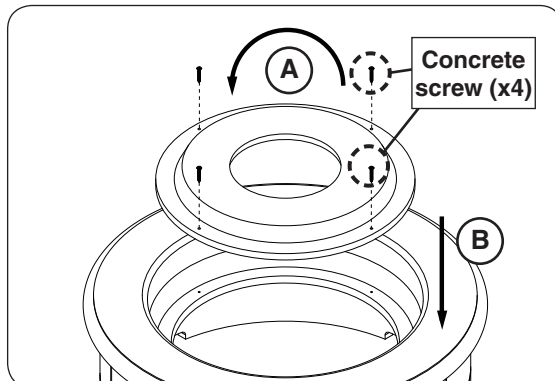

Fig. 24-5 Flip and install refractory panel
2. Flip the refractory panel and align the pilot holes. Re-install the 4 concrete screws (see Fig. 24-5).